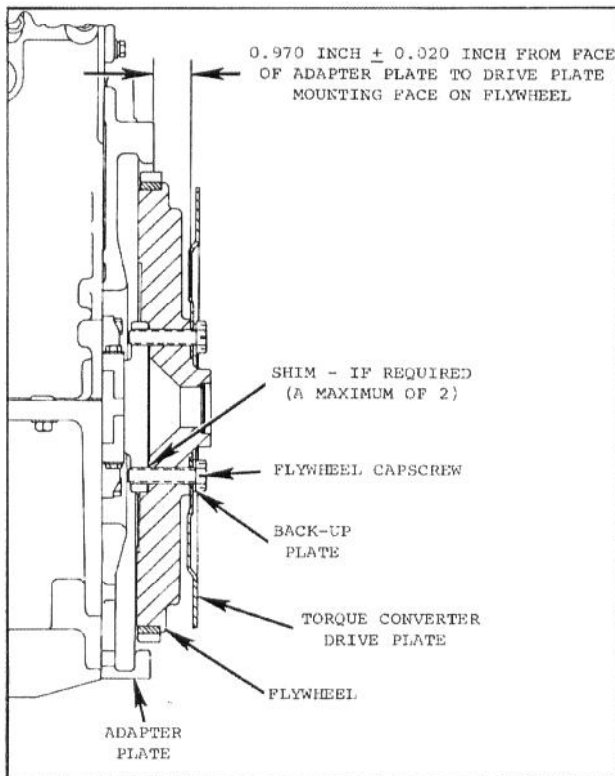

Fig. 28 - Converter Drive Plate and Back-Up Plate Installed
of .950-.990" between these two mounting surfaces. (See Fig. 28.)
8. If unit is equipped with an Instant Reverse Transmission, remove the flywheel capscrews and install the converter drive plate and back-up plate. Reinstall capscrews and tighten to 76-85 ft.-lbs. torque. (See Fig. 28 for proper positioning of drive plate.)